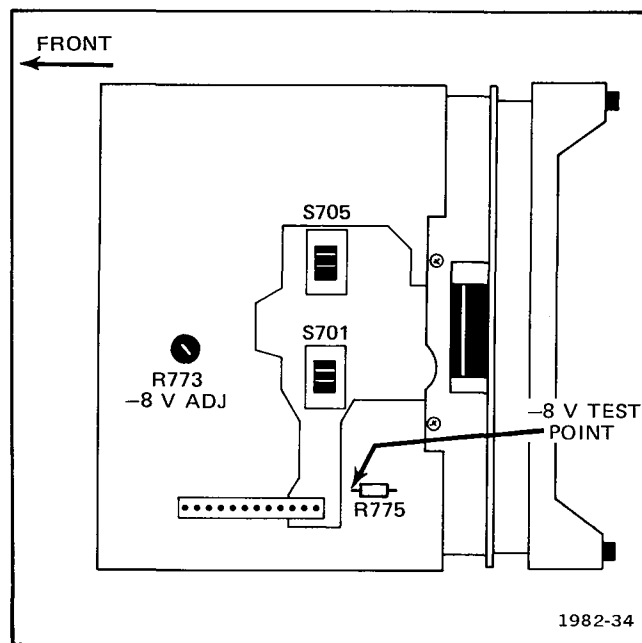

Fig. 4-1. Power supply adjustment locations (on bottom of chassis).
a. Connect digital voltmeter between the -8 V side of R775 and ground (see Fig. 4-1). If meter does not read between -7.96 V and -8.04 V, proceed to part b.
b. ADJUST—R773, -8 V Adj (see Fig. 4-1) for -8.00 V dc.